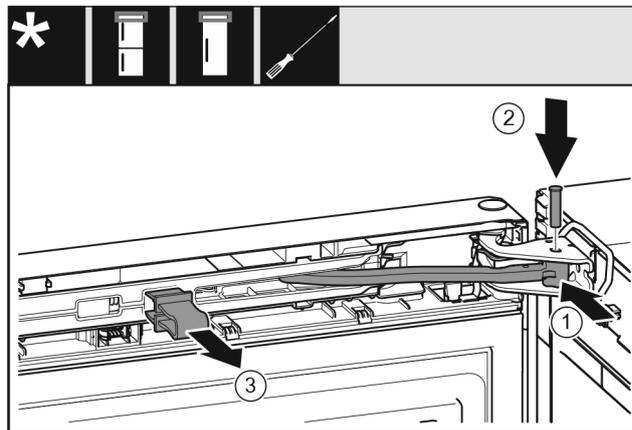

Fig. 72
- ▶ Turn the joint Fig. 72 (1) in the bearing block.
- ▶ Insert the bolt Fig. 72 (2) into the bearing bracket and joint. Ensure that the latching cam is in the groove properly.
- ▶ Remove the safeguard Fig. 72 (3).